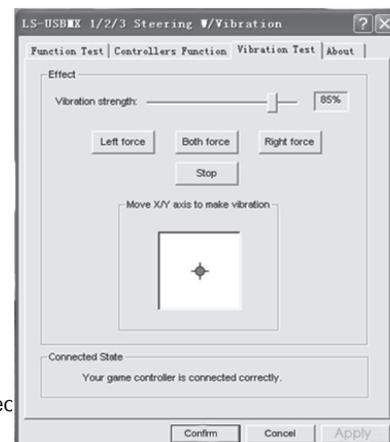

Fig. 9
- Choose Vibration test (Fig. 9) to check and set vibration feedback:
a) moving cursor in Vibration strength increases or reduces force of vibration feedback, for example, in Fig. 9 vibration feedback is 85 %;
b) pressing buttons Left force, Both force or Right force allows to check vibration feedback (Fig. 9);